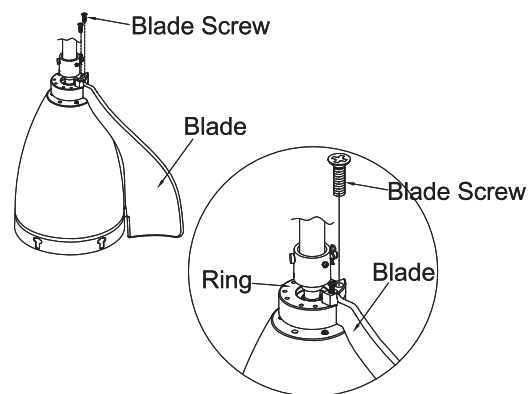

Fig. 8
**Step 1.** Place the fan assembly into the styrofoam pad. (The styrofoam pad serves as a holder for the fan during the first stages of assembly). Insert the blade into one of the slots on the flywheel, as shown. Attach the top of blade to the ring with two flat head blade screws provided in hardware bag. Do not tighten screws. (Fig. 8)